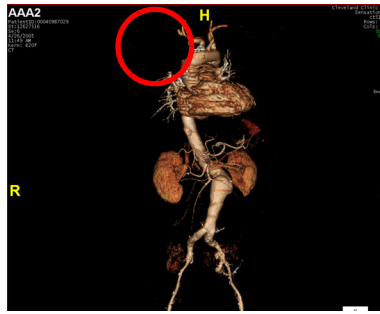

Figure 3-32: ROI Removed
3. When you have finished drawing the circle, release the mouse. The area you have circled is removed from the image (see Figure 3-32).